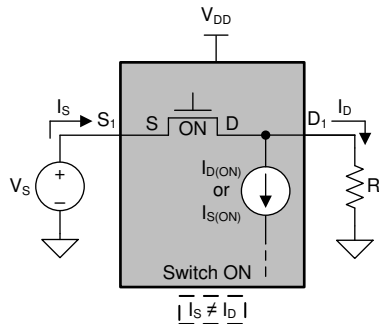

Figure 17. ON Leakage Current
- ON Leakage Current:** Leakage current measured at the input port in the ON state, with the corresponding output port in the ON state and the output being open (See Figure 17). Leakage current during the high-impedance state should be very small. Leakage current, if high, may load an isolated bus and corrupt the data.